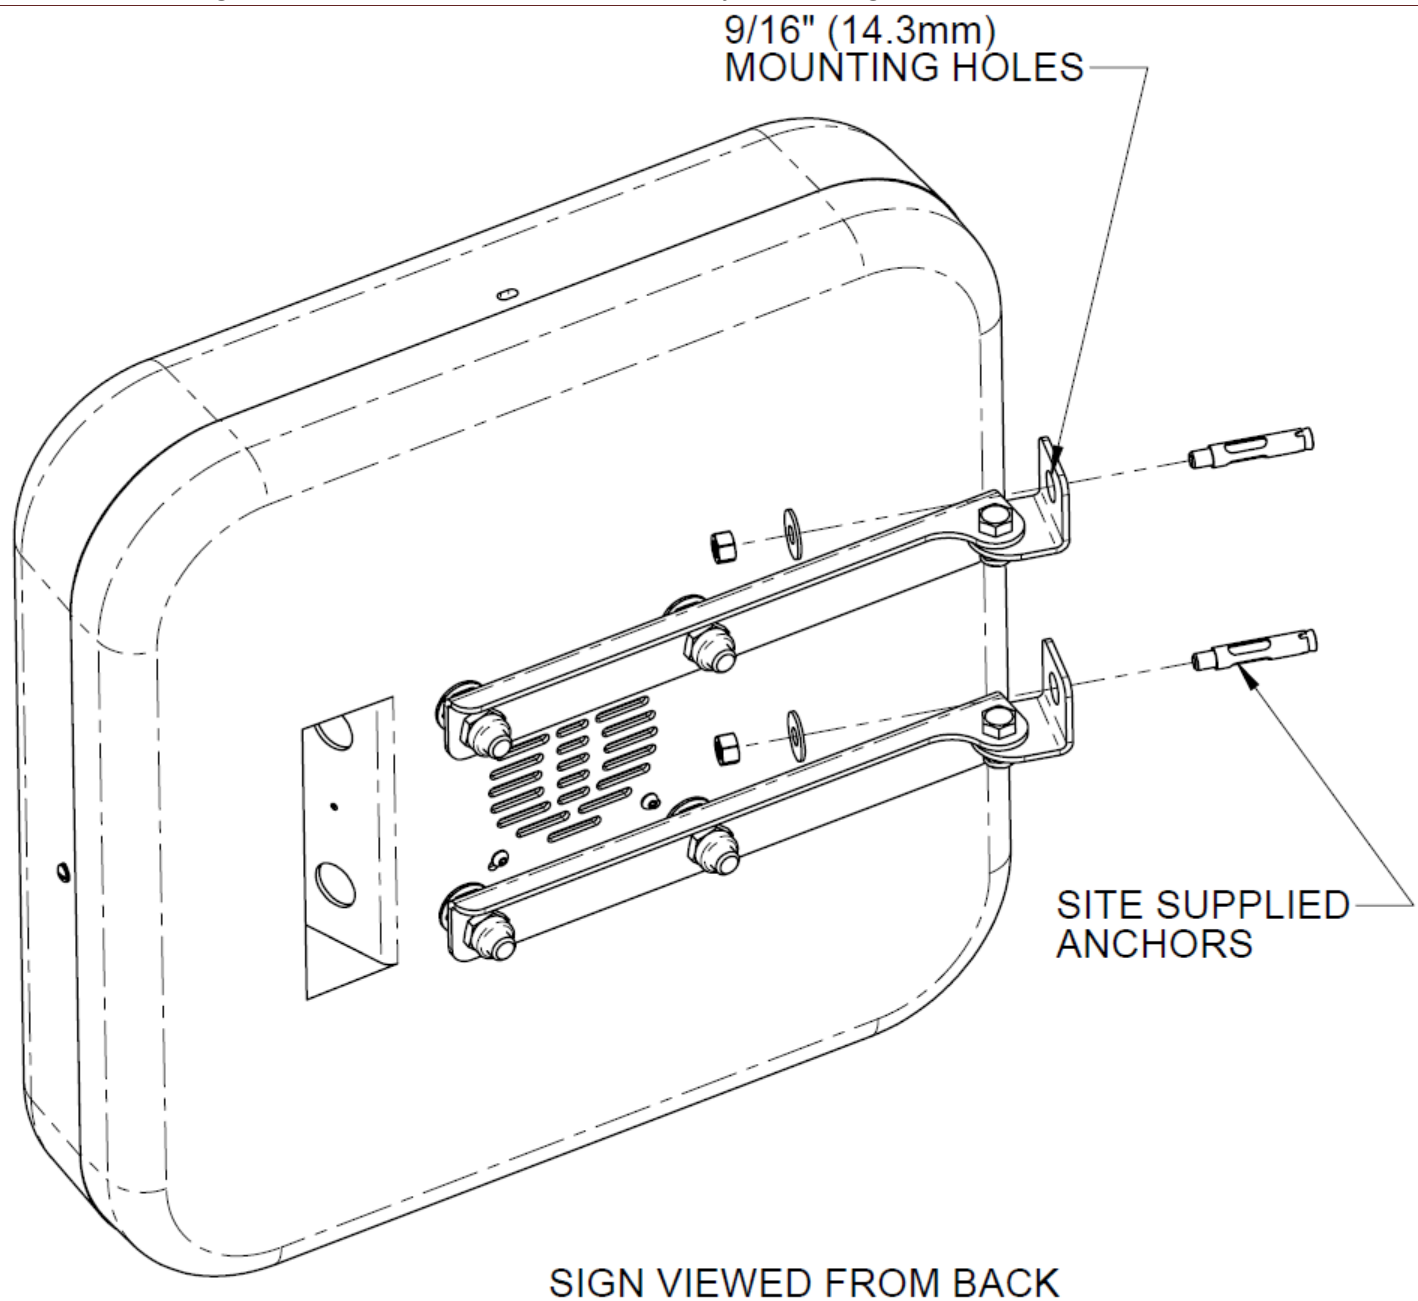

Figure 174 - Wall Mounting the In-Bay Sign
- Mounting the sign to the wash bay wall requires two installer-supplied fasteners to secure the sign to the wall. Use the appropriate fasteners for the wall material. Mount the sign securely to the wall, Figure 174.